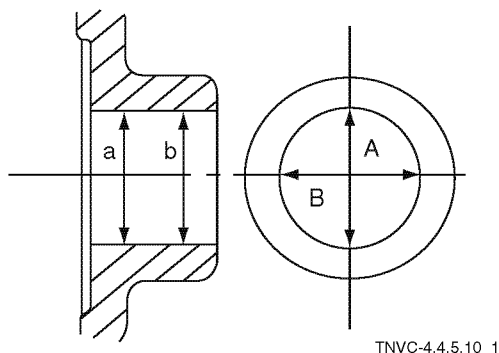

Figure 5-47
1. Measure the piston pin hole at **a** and **b** in directions **A** and **B** (Figure 5-47).